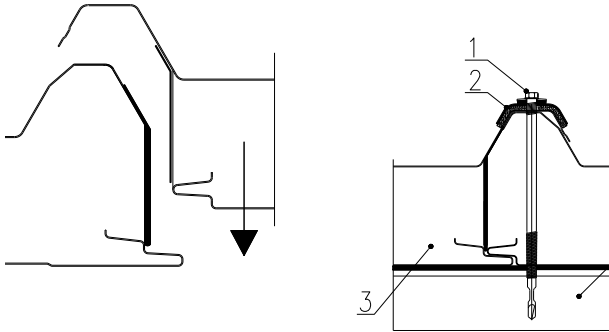

fig. 6
c. IzoRoof roof sandwich panels should be fixed only through the raised profile using saddle washer recommended by Izopanel (Fig.6). Fixing the roof panels to support construction between the raised profiles (in large valleys where the rainwater is draining down the slope) is not permitted due to the risk of leaks.